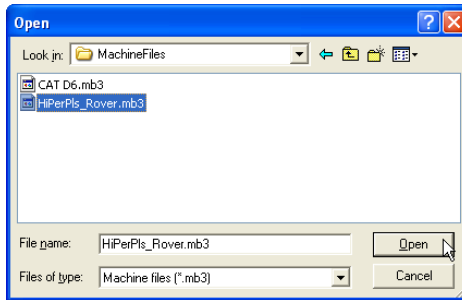

Figure 2-25. Select Machine to Export
3. Select the machine file to export and click **Open** (Figure 2-25 on page 2-21). 3D-Office connects with the Pocket-3D controller.